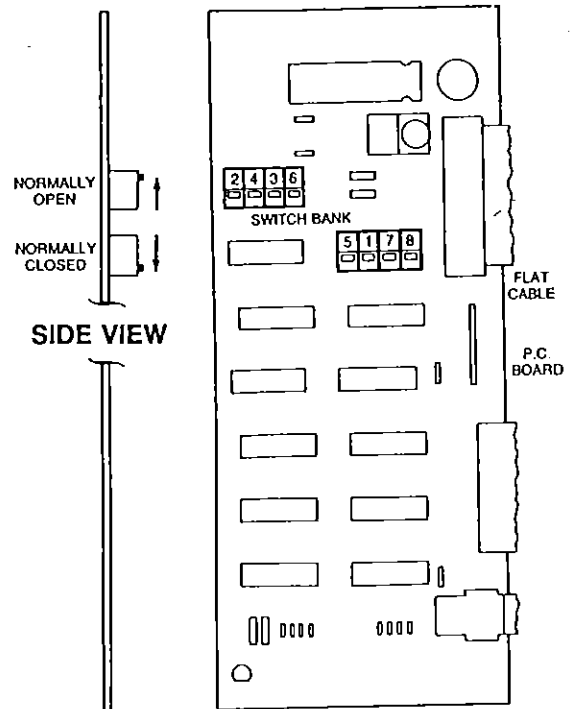

FIG. 10 — SWITCHES WITH CORRESPONDING NUMBERS
- b. The 8-Signal Module may be set up for use with normally open (N.O.) or normally closed (N.C.) remote switches. On the back of each 8-Signal Module are eight switches (See Fig. 10) for switch and signal position identification. To set for N.O. the switch will be set in the up position (See Fig. 10). To set for N.C. the switch will be set in the down position.